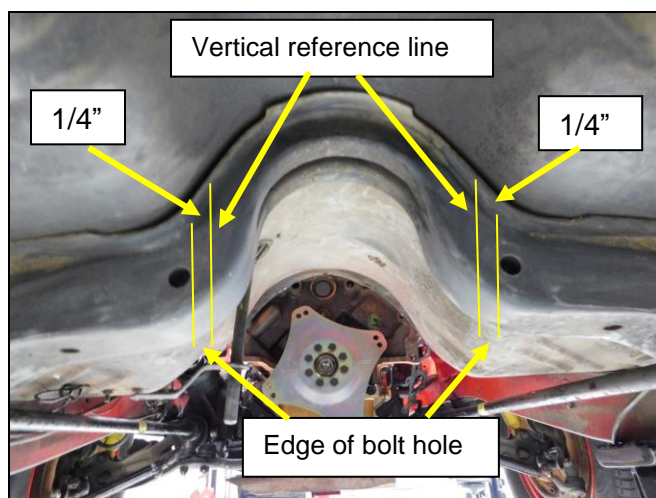
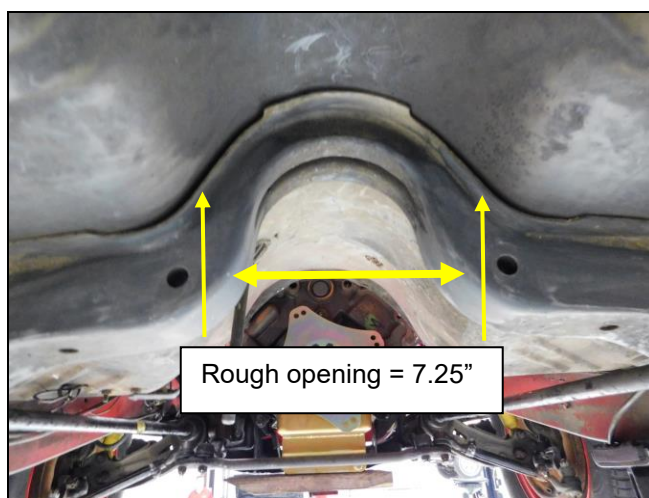

Figure 1
Figure 2
1. Measure from the bolt hole to the vertical reference line and mark at $\frac{1}{4}$ " (**Figure 1**).
2. Draw a vertical reference line from top to bottom on the upper transmission Crossmember (**Figure 1**). This will be the rough opening after the section of Crossmember is removed. The opening will be trimmed to actual size after the initial cut is made to avoid cutting into the support bushings inside the Crossmember Support (**Figure 2**).